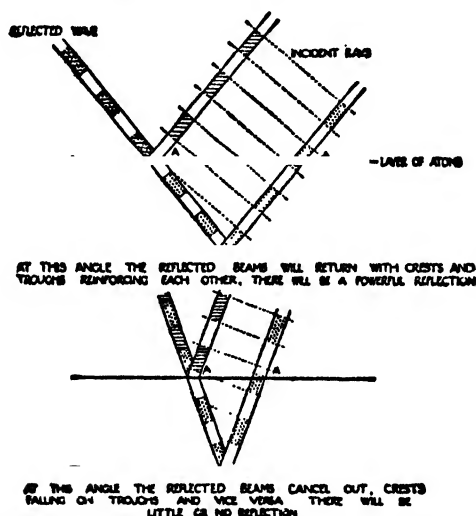

FIG. 336.—Showing that a crystal, consisting of layers of atoms, will reflect X-rays at certain angles, but not at others.
reflected rays reinforce each other, these layers must be an exact whole number of wavelengths apart, measured along the track of the beam. Fig. 336 shows that only for certain values of the angle (A) at which the X-rays strike the crystal will a powerful reflection take place: it is not difficult to see that, knowing the wavelength and the angles at which the powerful reflections appear, the distances between the layers of atoms can be worked out.